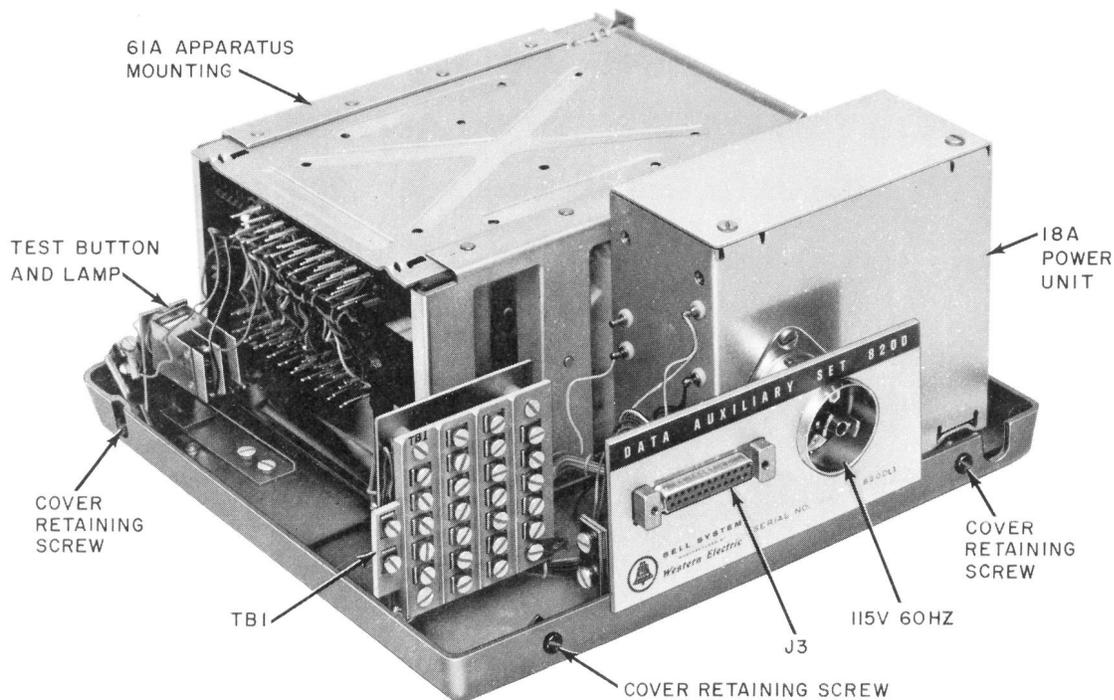

Fig. 1—DAS 820D Shown Without Cover and Power Cord
- (1) Disconnect power cord from customer receptacle.
- (2) Disconnect the customer EIA interface cord from DAS 820D-L1 (J3 connector).
- (3) Remove the DAS cover by loosening the four screws located around the base of the DAS (see Fig. 1).
- (4) Tag and remove wiring connections from terminal board TB1 of DAS 820D-L1.